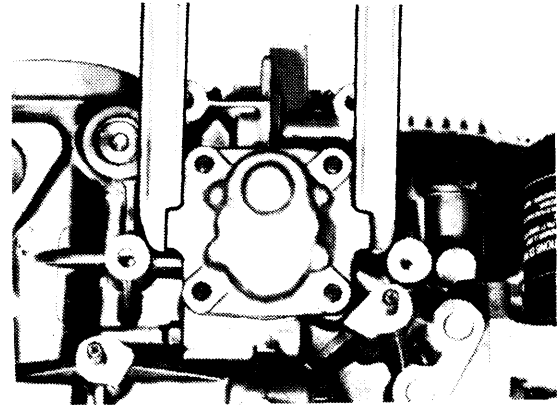

Fig. 15 Using Special Tool (Puller) to Remove Oil Pump
**Removal** — Remove engine. Remove 4 nuts holding oil pump. Using puller VW803 (or equivalent) as shown in Fig. 15, pry oil pump out of crankcase.